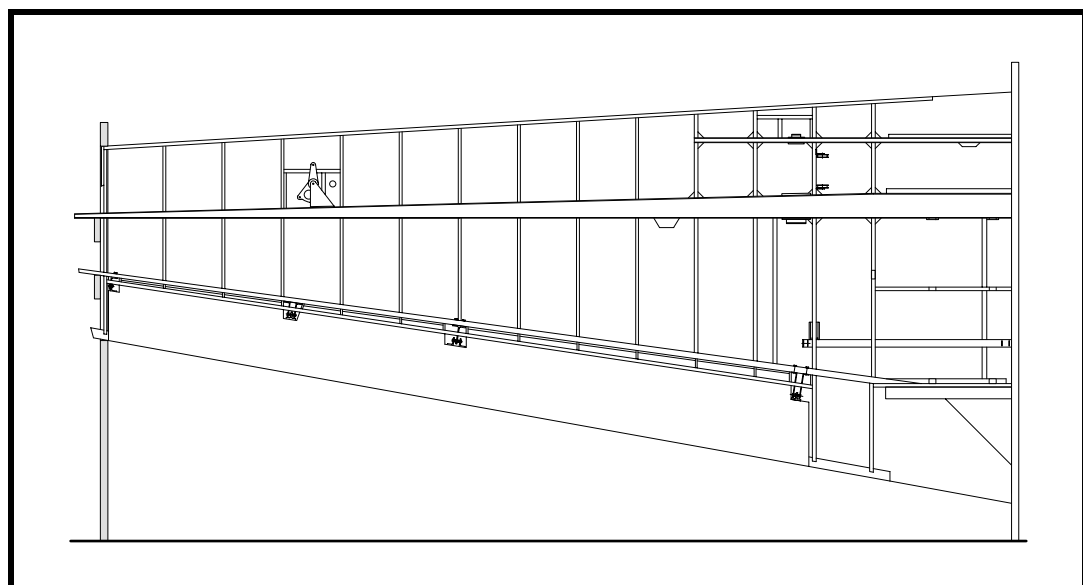

Figure 20
- ❑ Glue the two 20x20 spruce members on the front face of fuselage frame No. 6. See Figure 20—which shows the top of the left wing. These parts must be cut and fitted to the aft wing spar. The notches in these members must match the seat support required for the two types of wheel wells. The “open air” wheel well uses four 30x15 seat supports. The wheel well door installation has two 60x15 seat supports inboard and two 30x15 outboard.
- ❑ As shown in Figure 20, glue the 17 cove ribs to the aft face of the aft wing spar and install the wing gap trailing edge strip, P/N 206-5. See Drawing No. 201 Sheet 2.